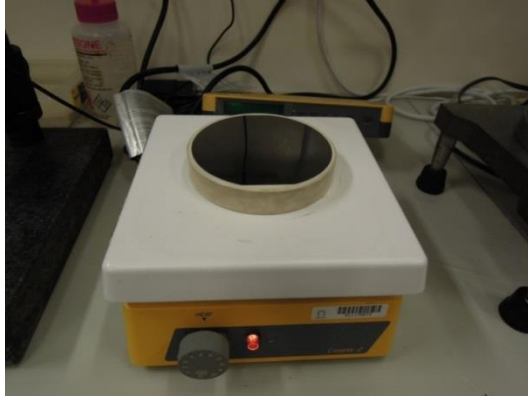

Fig. 4
- 5) Put your sample on top of the wax, and move the wafer in different direction to even the wax for a flat surface, see Fig. 4.